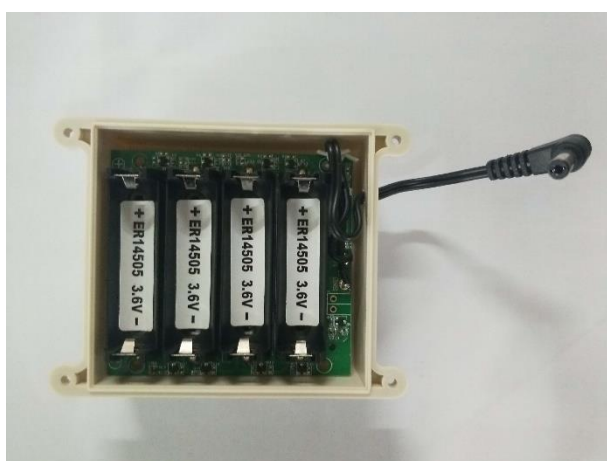

Figure 1. Battery PCB front
- (1) Environmental sensor - temperature and humidity _PM2.5 (R72616A) and battery box are fixed by screws at the factory for transportation reasons. Before installation, the screws need to be unscrewed (red circle below).
- (2) Environmental sensor - temperature and humidity _PM2.5 (R72616A) battery box with built-in lithium battery, users need to unscrew the four corners of the battery box. Insert 8 ER14505 3.6V batteries into the battery compartment, 4 sections on the front and 4 sections on the back side. After loading the battery, install the battery PCB board face up and attach it to the top cover of the case. As shown in Figure 1.